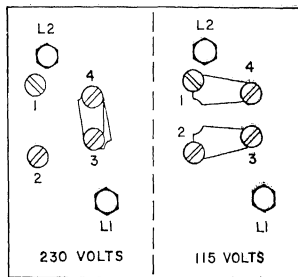

Figure 3. Motor Jumper Location
- The motor comes equipped with wire and plug for 115-volt ac operation. For 230-volt operation, change the wire and plug and refer to Figure 3 to convert the motor.